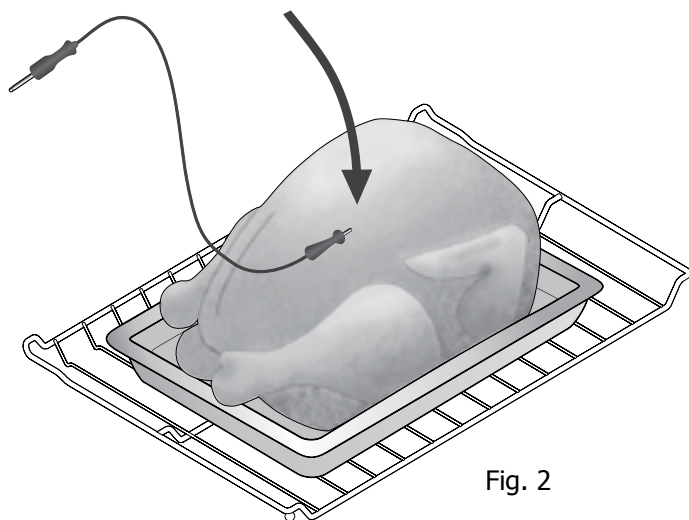

Fig. 2
- For whole poultry or turkey, fully insert the probe sensor into the thickest part of breast area (See Fig. 2).